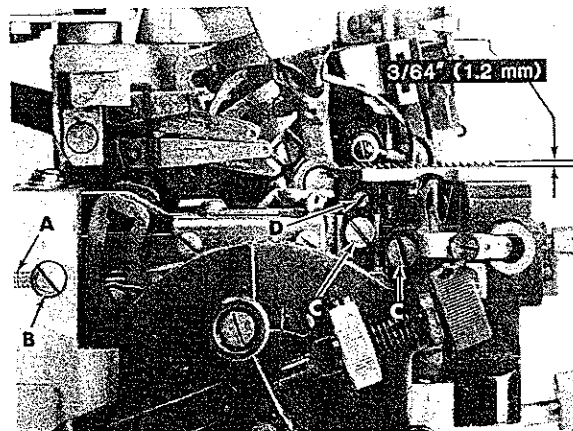

Fig. 14
Rotate handwheel in operating direction until teeth of rising feeds are above the top surface of throat plate. The feeds should be level with the throat plate at this time. With feeds at highest position of travel, their teeth should extend approximately $\frac{3}{64}$ inch (1.2mm) above throat plate as shown in Fig. 14.
Loosen lock screw (A, Fig. 14) and rotate tilt adjusting pin (B) as required to level feeds, then tighten lock screw (A).
Loosen feed attaching screws (C) and adjust feeds up or down to obtain proper height above throat plate as shown in Fig. 14, then tighten screws (C).